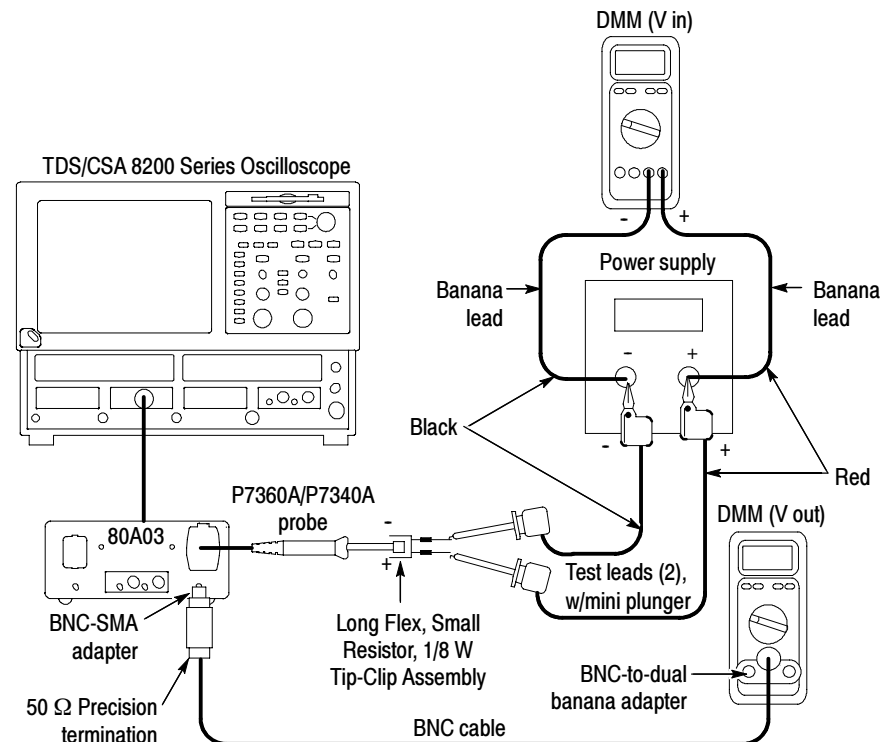

Figure 20: DC Gain Accuracy setup
2. Connect the probe with a Tip-Clip Assembly to the power supply as shown in Figure 20. Monitor the source voltage with one of the DMMs.